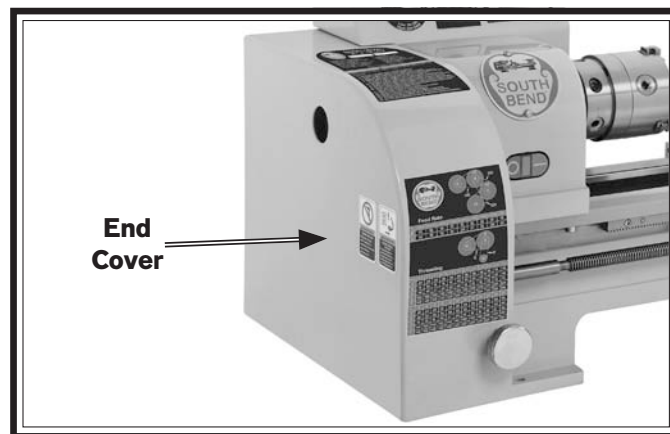

Figure 16. End cover closed.
8. Make sure the end cover is closed, as shown in **Figure 16**.